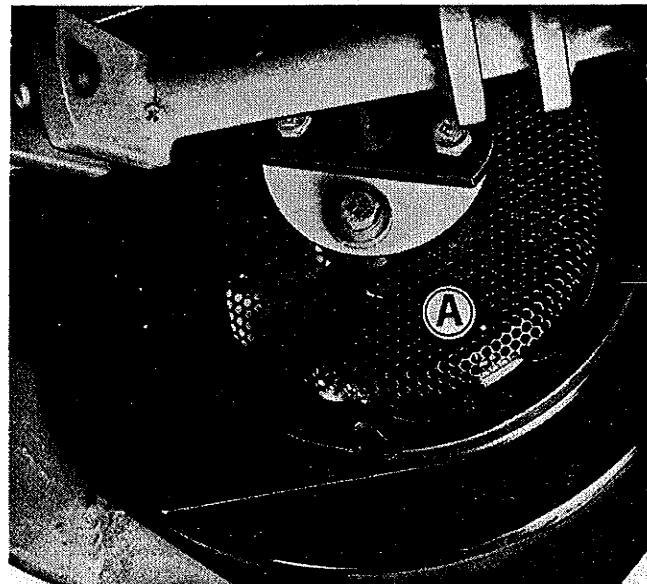

Figure 19. Engine blower screen located at rear of engine as seen from beneath tractor.
CLEAN ENGINE FINS AND SCREEN: See figure 19. The blower screen (A) must be kept relatively free of chaff, grass, etc., which would restrict the flow of cooling air to the engine. Material which collects can normally be removed with a brush after the engine is shut off. The screen may need to be cleaned more often when mowing dry grass.